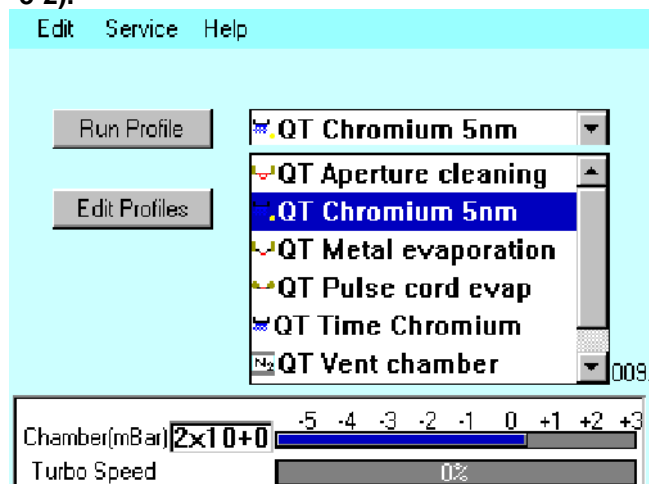

Figure 3-2. Selecting a profile
3. Tap on the down arrow button to open the dropdown list of profiles (see Figure 3-2).